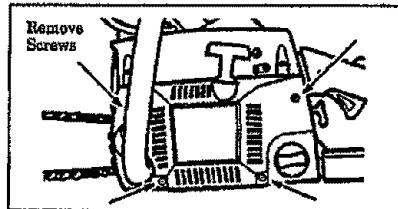

Figure 37
- Remove the four screws on the side of the fan housing. Figure 37.